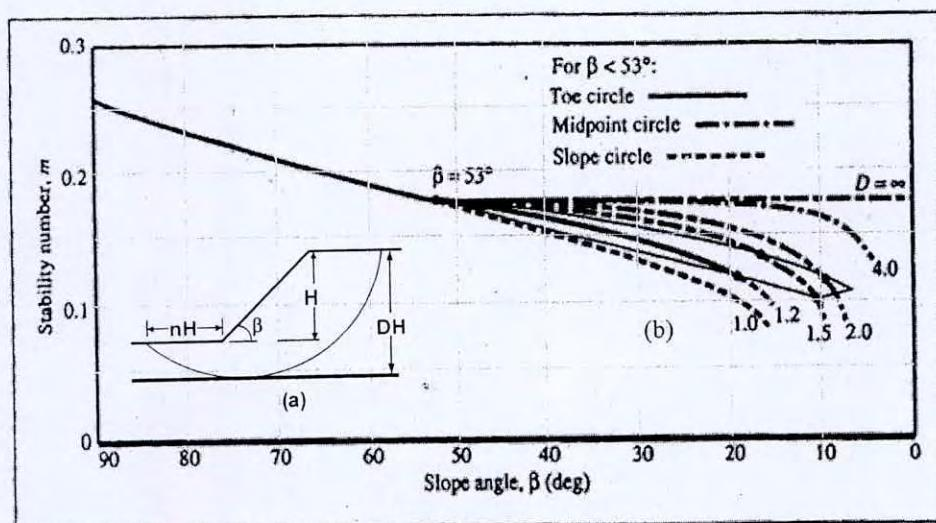
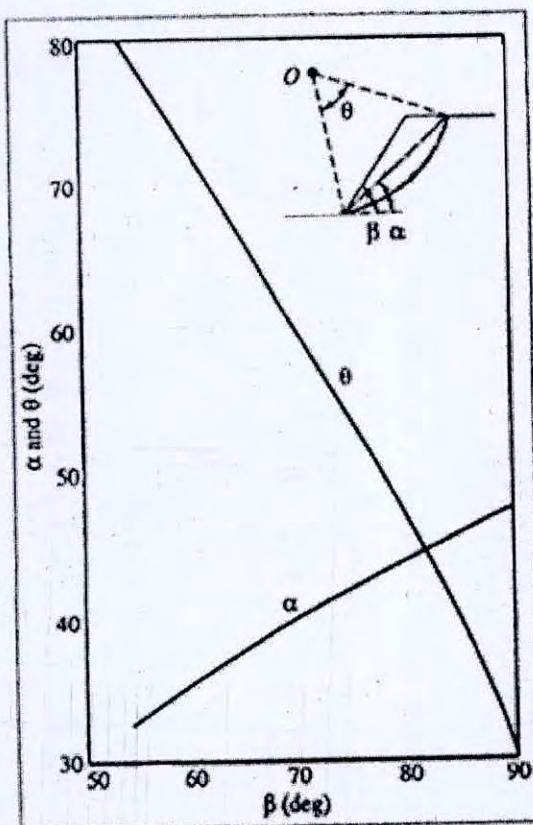

Fig. 3 Chart for stability number against slope angles for different values of depth factor D for slope stability analysis using Fellenious method.
Fig. 4 Location of the center of critical circles for $\beta > 53^\circ$
6. (a) An excavation is made in a saturated clay deposit for which $c_u = 20 \text{ kN/m}^2$ and $\gamma_{sat} = 17 \text{ kN/m}^3$. The cut slope makes an angle of 60° with the horizontal. Assuming undrained condition and using the charts (Fig. 3 & Fig. 4) given by Fellenius (10)